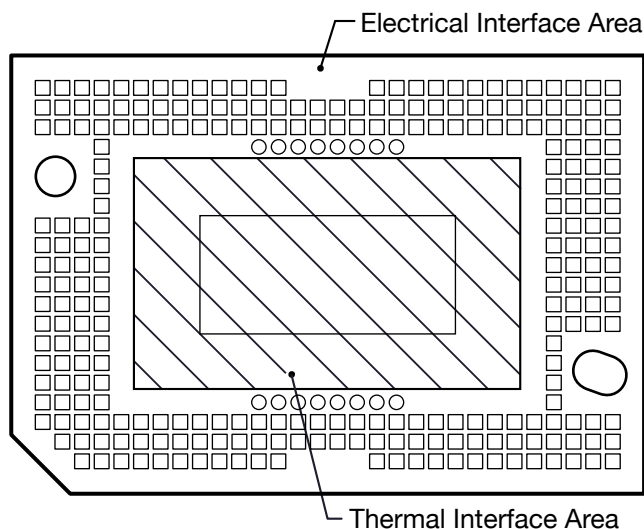

Figure 6-8. System Mounting Interface Loads
(1) Apply the load uniformly in the corresponding areas shown in Figure 6-8.